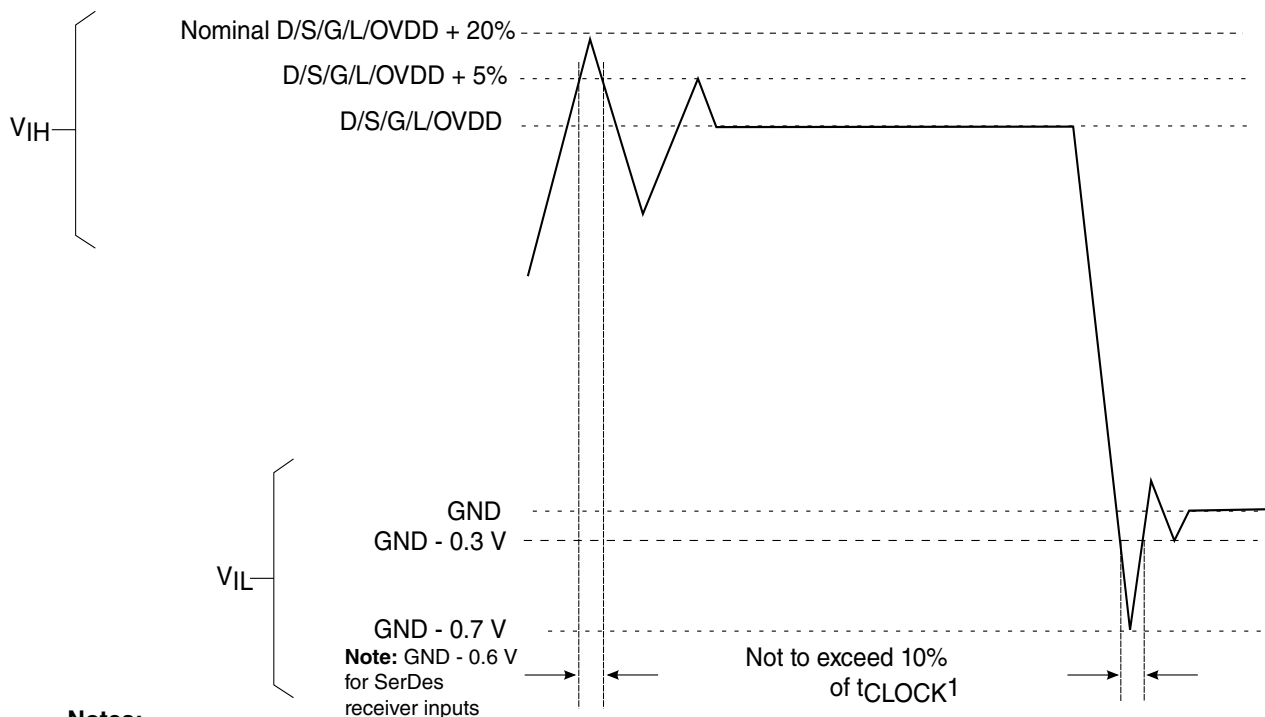

Figure 8. Overshoot/Undershoot voltage for G1V_{DD}/L1V_{DD}/OV_{DD}/SV_{DD}/DV_{DD}/CV_{DD}/LV_{DD}/EV_{DD}
- (S,G,L,O,D,E,C) V_{IN} , $USBn_V_{IN_3P3}$, $USBn_V_{IN_1P8}$ and Dn_MV_{REF} may overshoot/undershoot to a voltage and for a maximum duration as shown in Figure 8.